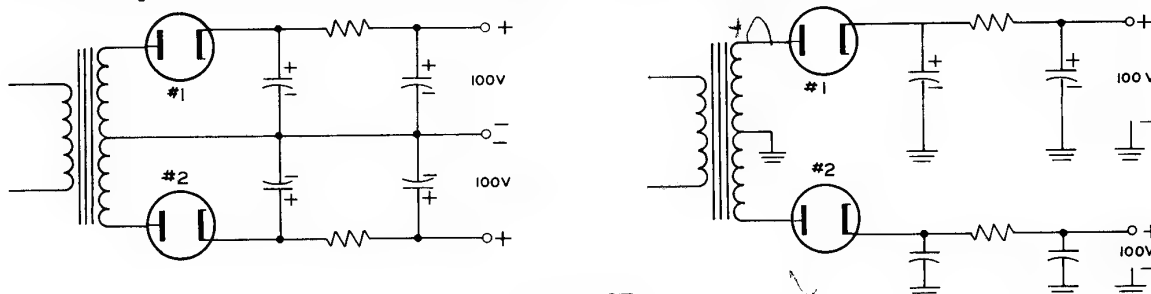

Figure 2F
Notice that rectifier #1 and rectifier #2 take turns conducting. In the full-wave rectifier, a way has been found to combine these two half-wave rectifiers into one circuit so that both halves of the input AC waveform are used. This full-wave rectifier is shown in Figure 2F.
In Part ① of Figure 2F, the center connections of the two equal windings of Figure 2E have been connected together. The rectifier circuits still work in exactly the same way, only both currents now use a common center wire.
In Part ② of Figure 2F, the common center wire has been replaced by ground (chassis ground) connections (see Page 9). In addition,